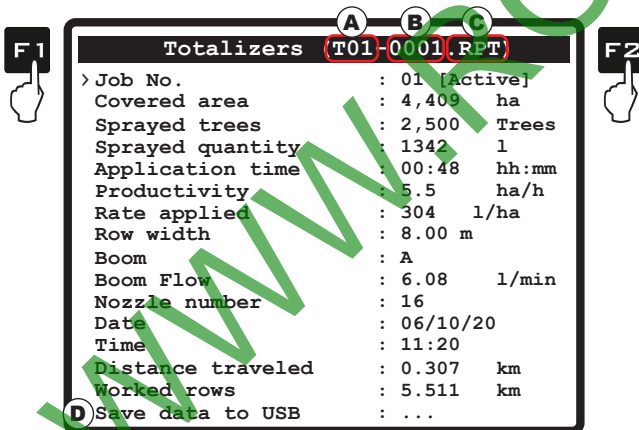

Fig. 80
- It is possible to save the totalizer reports on USB pendrive using the relevant function **Save data to USB** (Fig. 80).
- Select item **Job No.** (Fig. 80) and press **CLR**.